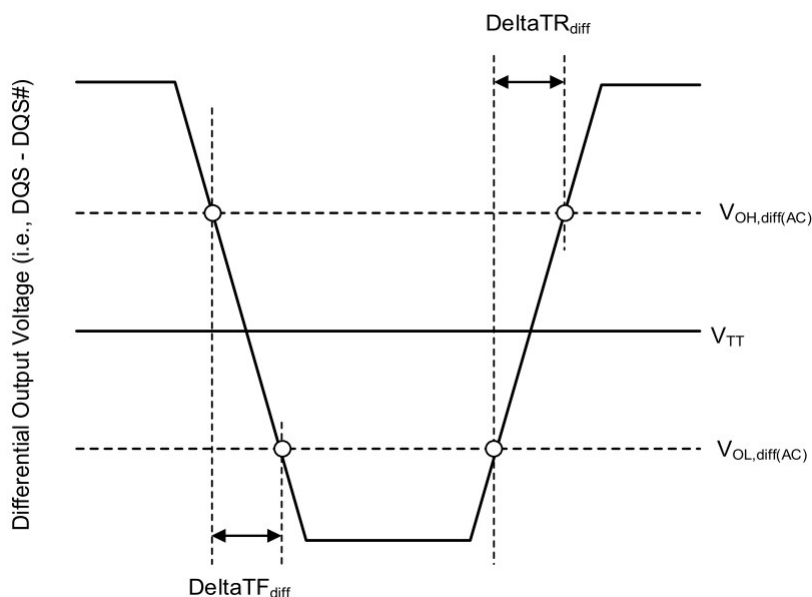

Figure 39 – Differential Output Slew Rate Definition
With the reference load for timing measurements, output slew rate for falling and rising edges is defined and measured between VOL,diff(AC) and VOH,diff(AC) for differential signals as shown in Table 37 and Figure 39.